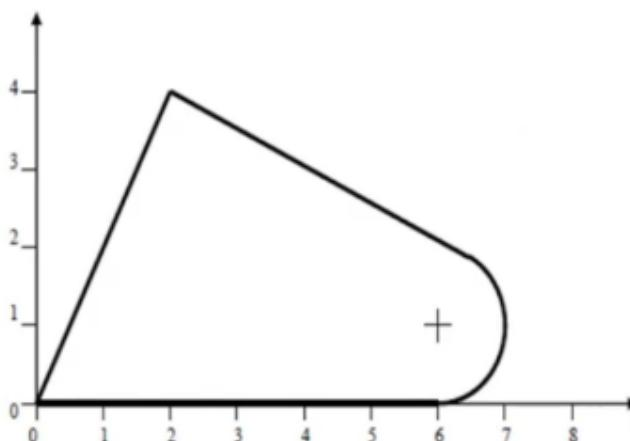

Fig.5
b) Write a complete APT part program for the component shown in Fig. 5. **08**